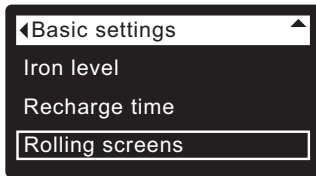

FIG. 107
3. Press the SELECT (O) button to display the Basic settings menu (See Figure 107).
7. To un-select a screen, make sure its name is highlighted in a box. Then press the SELECT (O) button. The black square will disappear. Pressing SELECT (O) again makes the black square reappear and re-selects the highlighted item. At least one screen must be selected/highlighted.
8. When selections are complete, exit this menu by pressing the LEFT (◀) button. The display will go back to the Basic settings menu (Figure 107).